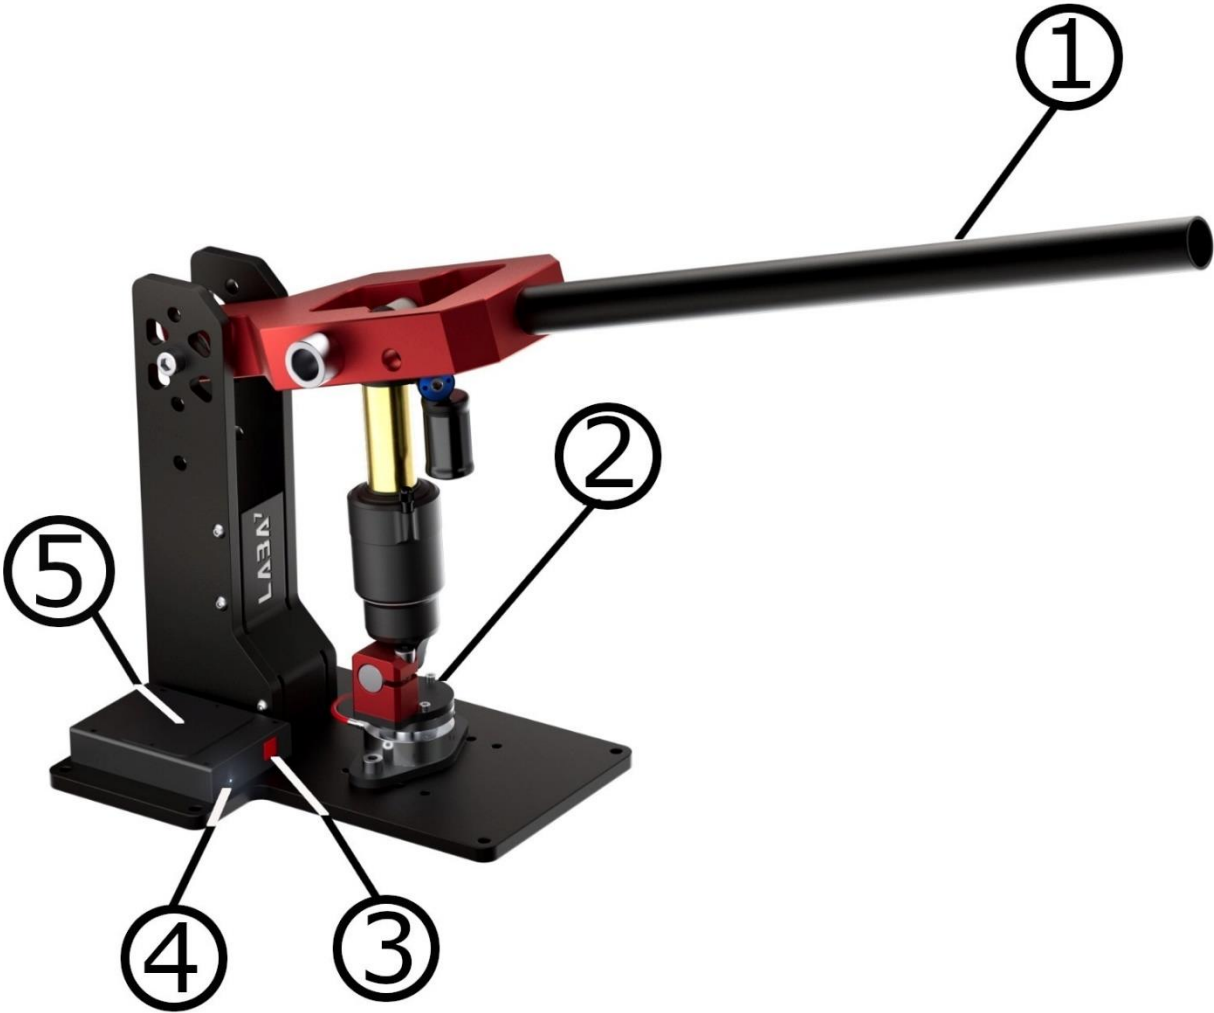

Fig. 1.
LABA7 MTB shock tester require very little assembly after unpacking. The user only has to screw in the handle (nr.1, Fig.1) and install the batteries into the battery compartment (nr.5, Fig.1).
3. Turn on the device by pressing red button (No.3, Fig.1)
To test the shock absorber, user has to install the damper with the right adapters to the Hand dyno, start the app and start testing. To test the damper, user has to use the handle(No.1, Fig.1).Push the handle down for the absorber to generate force.